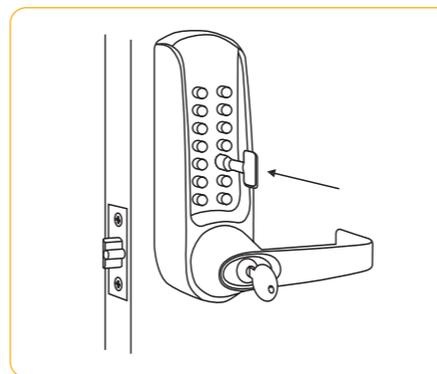

Fig 2
5. To select a button as a **code button**, push code tool over button. Press in button with tool approx 2mm (³/₃₂" and turn **clockwise 180°**. Fig 2.